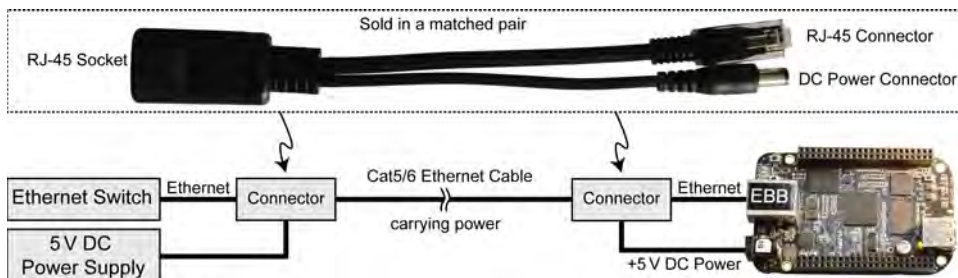

Figure 10-13: AdaFruit pseudo-PoE cable
- **Use a pseudo-PoE cabling structure:** Adafruit sell a *Passive PoE Injector Cable Set* (~\$6), illustrated in Figure 10-13, for which you can use a regular 5V mains supply to inject power into the unused twisted pair wires, and then draw that power at the other end of the cable. **Under no circumstance should such cables be connected to a true-PoE switch!**